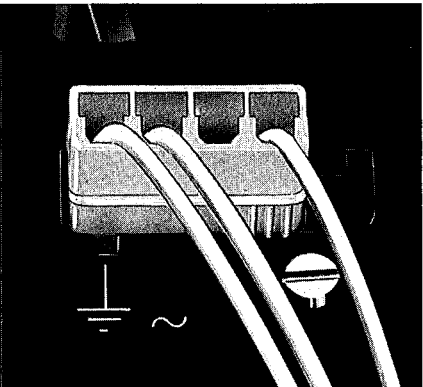

Fig. 3
B. No. 209 458; AMP-No. 42 859/1 (fig. 3)